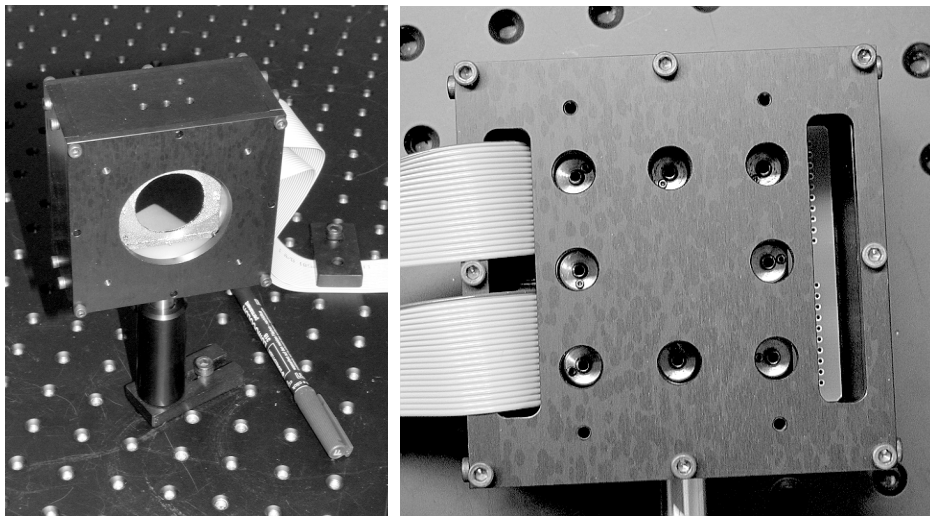

Figure 1: *Front and back view of the mirror.*
The mirror, shown in Fig. 1, consists of a silicon chip mounted over concentric electrostatic electrode structure. The chip contains multilayer silicon nitride membrane, which is coated with a special coating to form the mirror. The PCB contains the control electrode structure, spacer and connector. The initial shape of the reflective membrane can be adjusted using 8 adjustment micrometric screws on the back side of the mirror mount.
3. Using 0.9mm hex key release the screw latches (see Fig. 1).